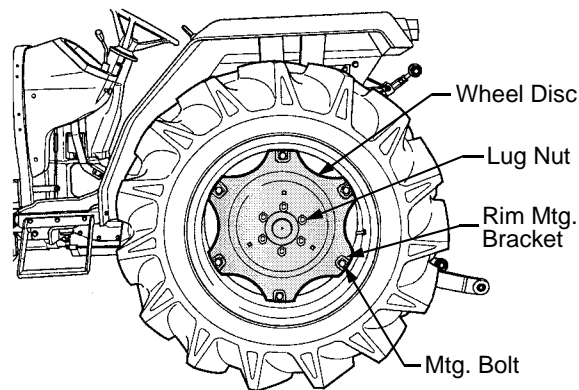
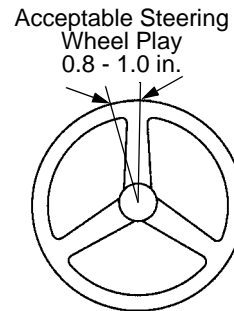

Figure 47
**Figure 48**
When operating the tractor in the field, it is sometimes necessary to change the rear wheel tread width to a narrower position to avoid plant rows, or to widen the tread to improve stability when operating on slopes. The rear wheel tread width can be adjusted to any of 6 different positions ranging from 42.4 to 54.6 inches by removing the lug nuts and mounting bolts; then changing the position of the wheel disc in relationship to the rim mounting brackets and/or the rear axle. See Figure 47 and Figure 48.
- Adjust the tread widths as shown by changing the mounting relationship of the wheel disc to the rim mounting brackets and/or the relationship of the dish of the wheel disc to the axle. See Figure 48.